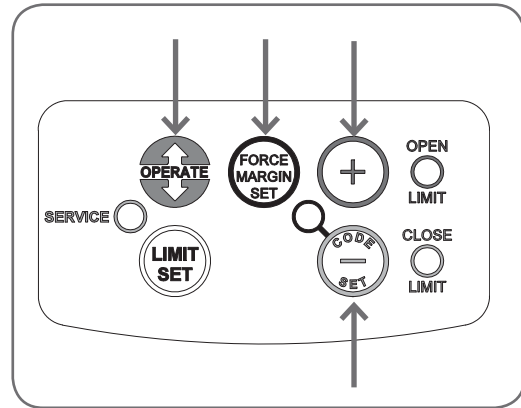

Fig. 26
- Press the OPERATE button to open the door (Fig. 26).
- Press the OPERATE button to close the door (Fig. 26).
- Press and hold the FORCE MARGIN SET button (Fig 26).